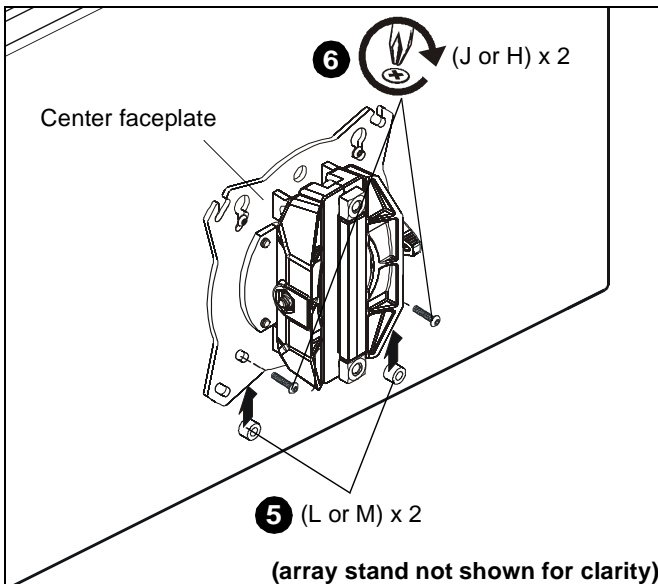

Figure 15
- Slide two remaining selected spacers (L or M) in between faceplate and display, positioning them over the *lower* two mounting holes. (See Figure 15)
- Install two remaining selected screws (J or H) through *lower* two mounting holes on faceplate, selected spacers (L or M) into the *lower* mounting holes on the display. (See Figure 15)